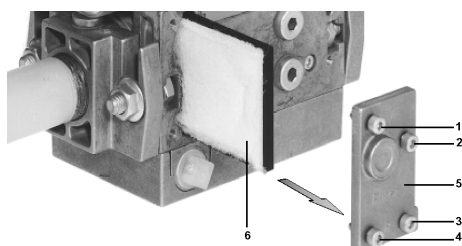

Fig. 18
- 2 Remove screws 1 ÷ 4 using the Allen key n. 3 and remove filter cover 5 in Fig. 18.